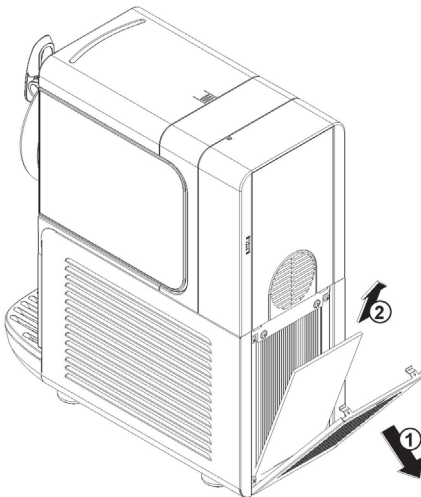

figure 18
- 5** Once a month: eliminate any dust that has built up on the condenser filter situated at the rear of the machine (see figure 18).